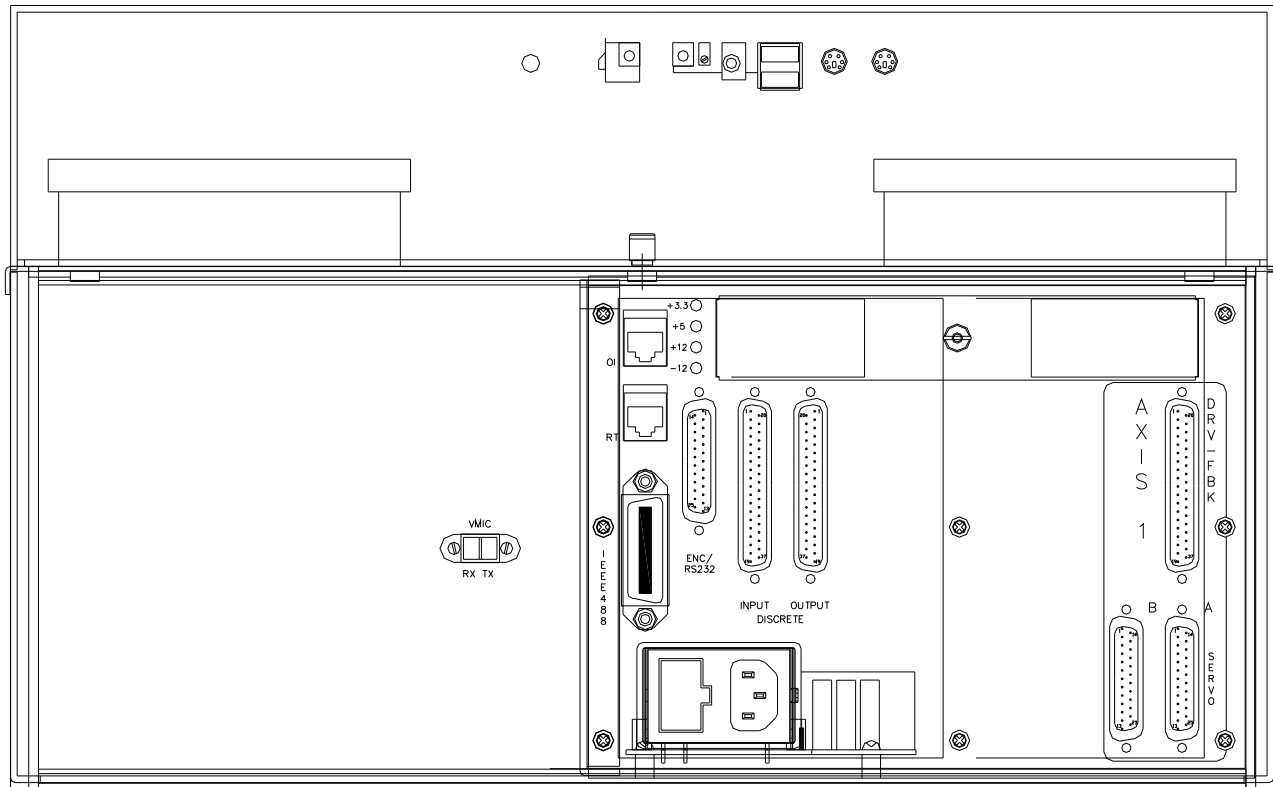

Figure 6-3 Acutrol3000 Rear Panel Showing VMIC Interface
- **Rear Panel.** A modified rear panel is supplied for customer access to the fiber optic connections. The panel is mounted in place of the existing blank panel. See Figure 6-3.